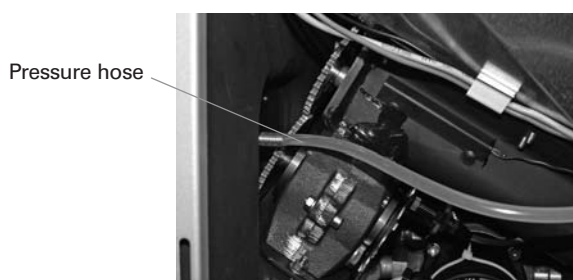

Fig. 150 Pulling off the pressure hose
- Pull the pressure hose off the pressure measuring nipple (Fig. 150) and clean the induction opening in the pressure measuring nipple, e.g. using a small screwdriver, drill bit or the like – Fig. 151.